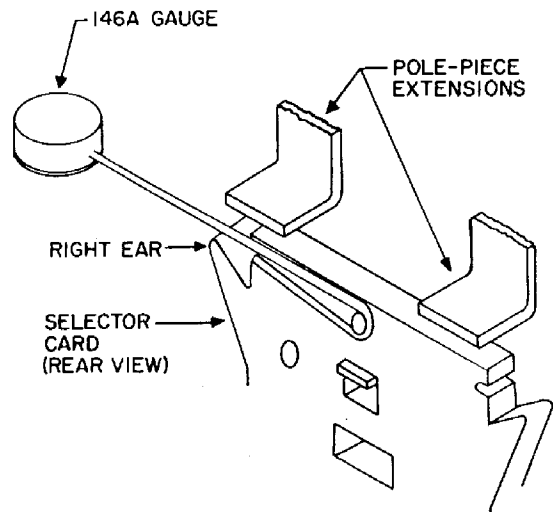

Figure 4. Use of 146A Gauge for Bias Margin Test.
- (1) To test collect operation, place a W.E. Co. 146A gauge on the right side of the selector card, as shown in Figure 4. Push the relay leads aside so that the gauge can move freely.
- (2) Trip the coin trigger, listen for dial tone, and dial the testboard, local operator, or (where provided) the paystation test circuit. Ask or dial the code for application of +110 volt collect po-